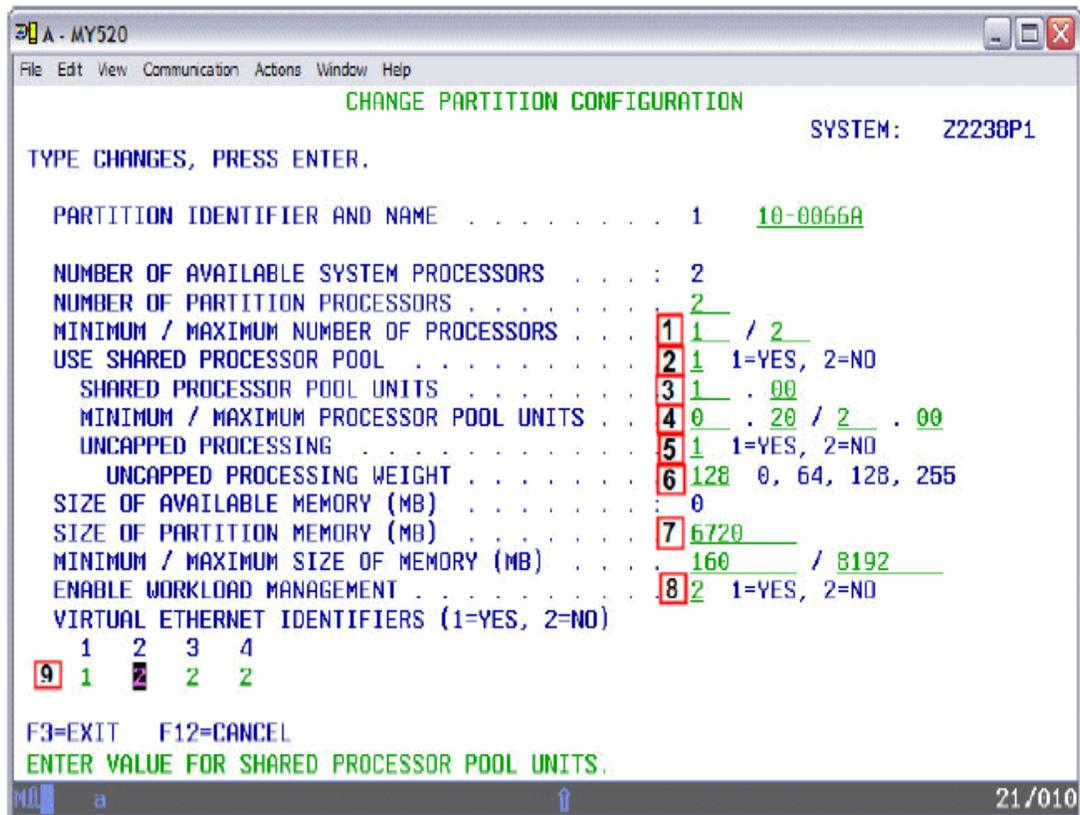

Figure 13-9 Change Partition Configuration Options
- Make several changes here, based on the resources you want to set for the i5/OS partition. You need to assign the CPU and memory allocation according to the planning you completed with the Logical Partitioning Validation Tool (LVT). We examine all of the changes step-by-step as highlighted in Figure 13-9.